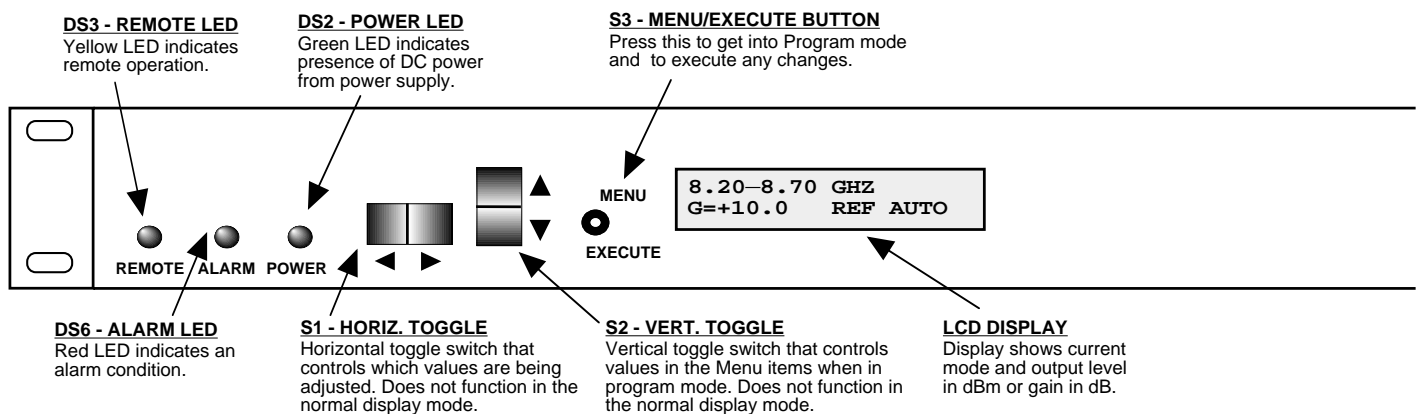

FIGURE 2.2 3115-8287 Front Panel Controls and Indicators
Figure 2.2 shows the front panel controls and indicators.
6. Be sure DS2 (green, DC Power) is on and DS6 (red, Alarm) is off (Figure 2.2).
Alarm indications appear on the LEDs (see Figure 2.2).